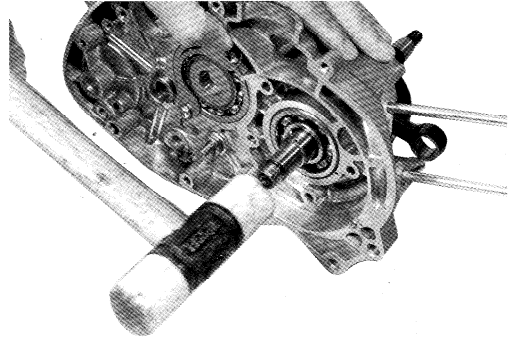

Fig. 5-4-28
28. Remove the crankshaft from the crankcase right half by striking the right end of the crank-shaft with a plastic or wooden hammer. (Fig. 5-4-28)